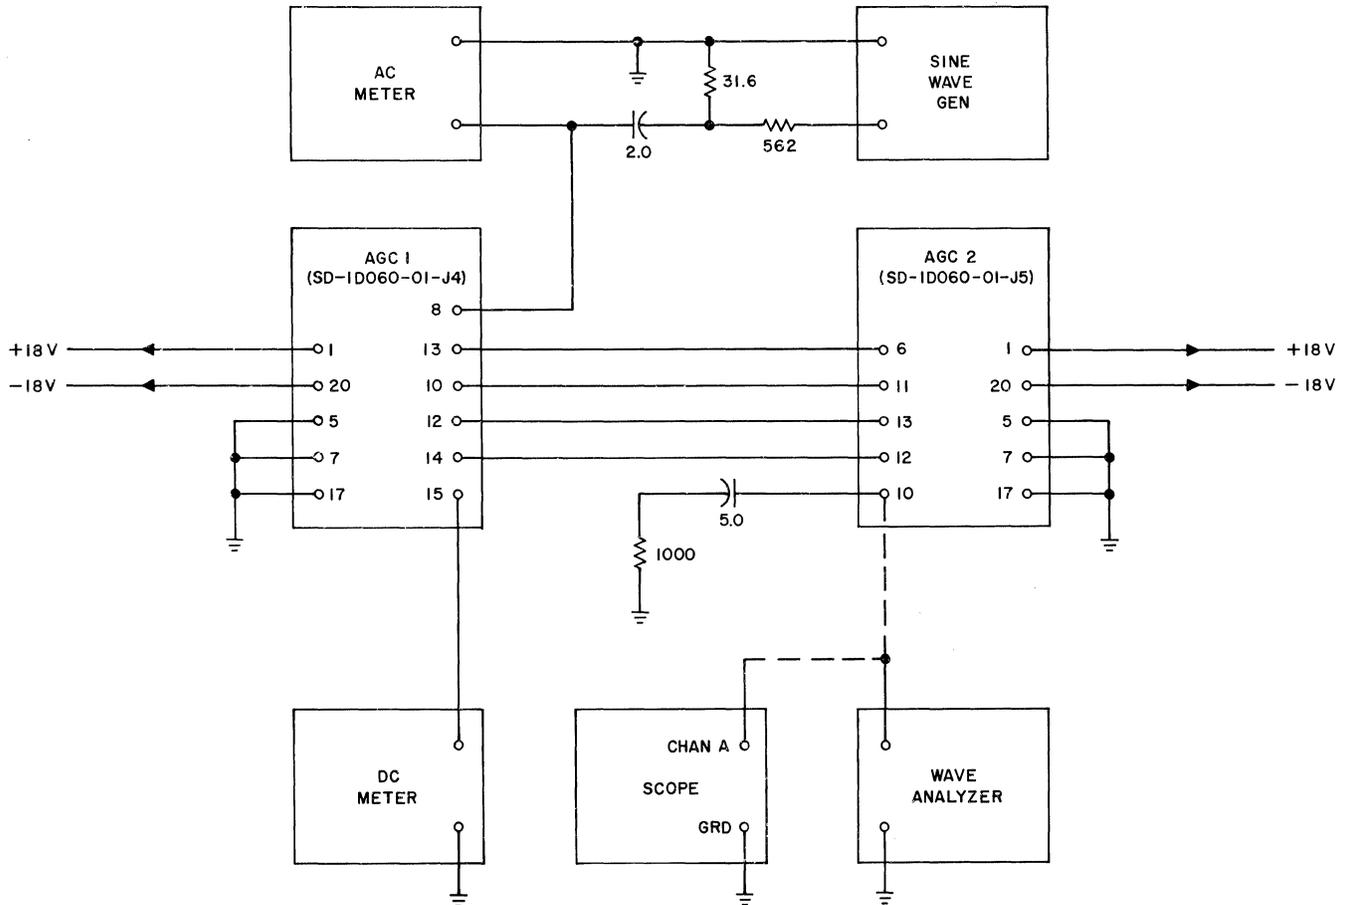

Fig. 23 — Automatic Gain Control 2 Test
circuit shown in Fig. 23 with the scope connected to terminal 10 of the AGC2 card. Apply power to both cards as specified in 10.25 (a).
(1) The distortion measurement of the AGC2 card is made in conjunction with the AGC1 card. Connect the cards as in the suggested test circuit shown in Fig. 23, with the wave analyzer connected to terminal 10 of the AGC2 card. Apply power to both cards as in 10.25 (a).
(2) With the wave analyzer connected to terminal 10 of the AGC2 card, apply a 78 ( $\pm 1$ ) mv rms signal at 600 cps ( $\pm 5$  percent) to input terminal 8 of the AGC1 card. Tune the wave analyzer to obtain a peak reading on the meter at the fundamental frequency of 600 cps. Set the meter indication to 0 db by adjusting the wave analyzer reference adjustment.
(3) Tune the wave analyzer for a peak meter reading in the vicinity of the second harmonic frequency of 1200 cps. The meter should indicate  $-30$  db or lower at the second harmonic frequency.